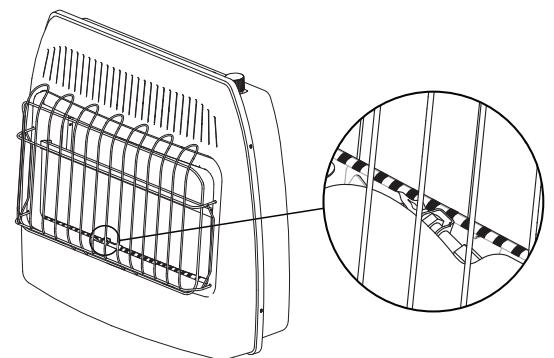

Fig. 24 - Pilot Flame Location
6. With control knob depressed, push down on the ignitor button until the pilot lights. The pilot is visible, centered below the main burner, behind the glass panel. (See Fig. 24 on page 19)
7. Keep control depressed for (30) seconds after pilot lights. Release control knob.
6. With control knob depressed, push down on the ignitor button until the pilot lights. The pilot is visible centered below the main burner, behind the glass panel. (See Fig. 24)